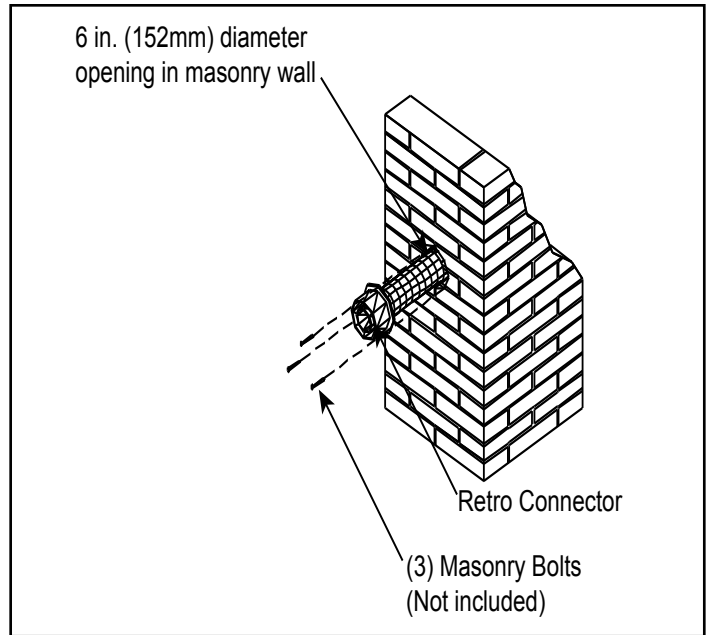

Figure 4.21
9. Attach the flex to the retro connector. Use three sheet metal screws to attach the flex liner to the connector. Mount the retro connector to the masonry wall using masonry bolts. See Figure 4.21. Redrill larger holes on connector as needed. Be careful to ensure that the connector is centered in the opening and the mounting holes line up with the masonry wall.